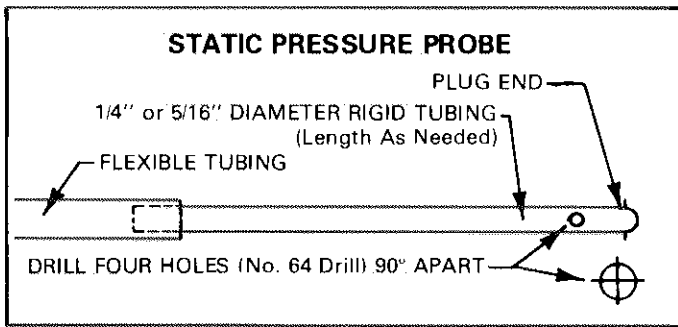

FIGURE 86
- 1 - Assemble a static pressure probe according to Figure 86.